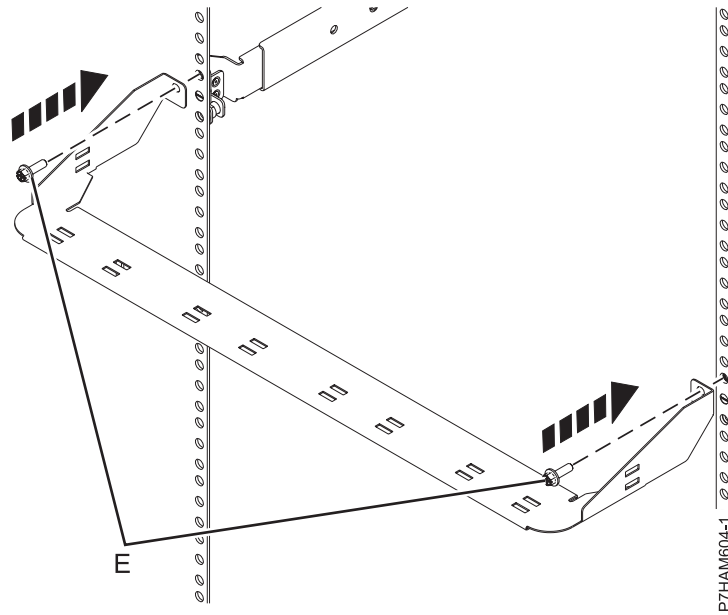

Figure 12. Mounting the cable management bracket
- g. At the rear of the rack, hold the cable management bracket up to the rear rack flanges, aligning the bracket mounting holes to the top holes of the EIA that contains the enclosure, as shown in Figure 12 on page 13. Apply the M5 screws (E) through the mounting holes of the bracket and into the top EIA holes on the rack flanges.